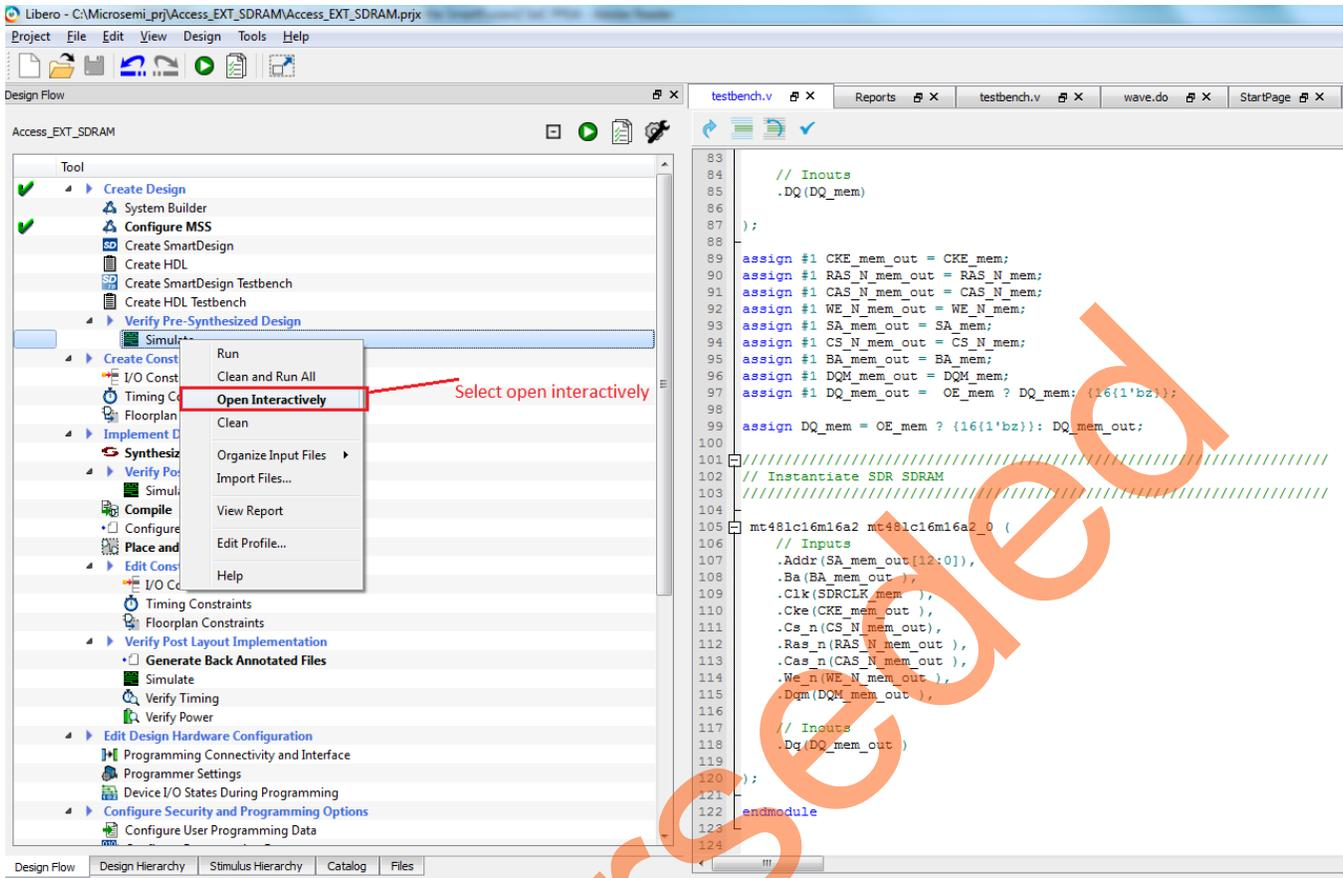

Figure 35. Invoke ModelSim
7. After specifying the testbench stimulus file, expand the **Verify Pre-Synthesized Design** option, select the **Simulate** option under it, right-click and select **Open Interactively** to invoke ModelSim, as shown in Figure 35. ModelSim is invoked and the design is loaded.